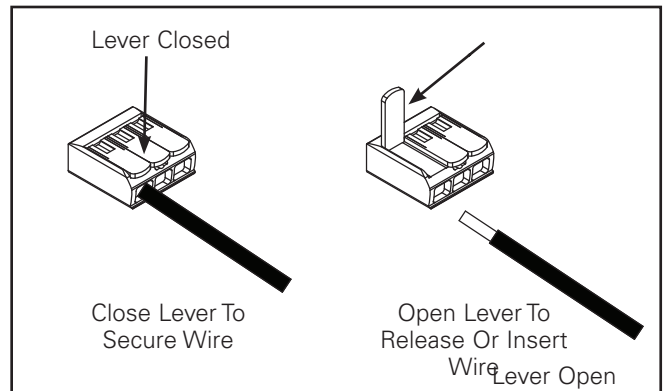

Figure 9
5. Lift the orange tab on the lever nut to disengage the wire and close to secure the wire in place. (Figure 9).